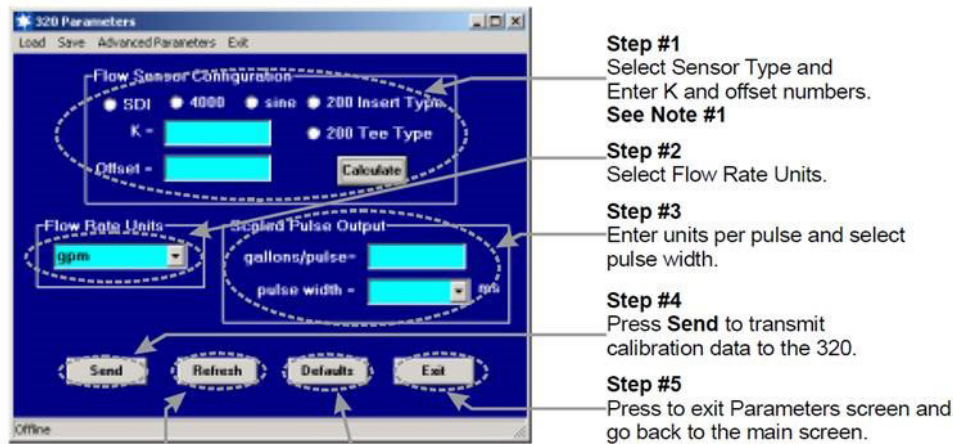

Figure 7: Program using the diagram as reference
6. Program using the diagram in *Figure 7* as a reference.